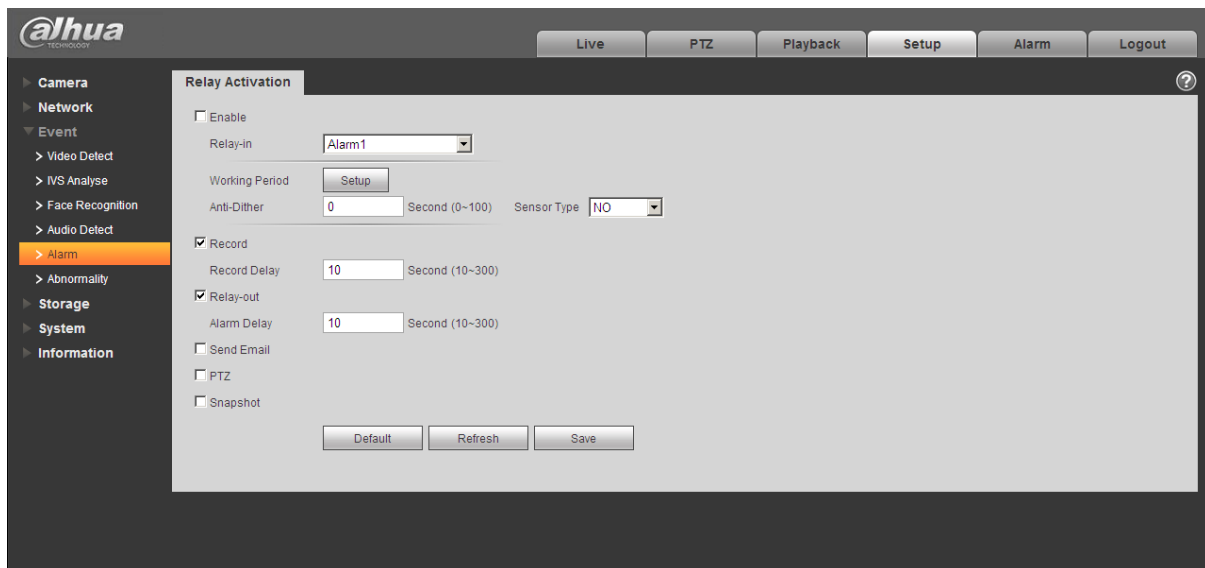

Figure 1-3 Alarm
The alarm interface is shown as in Figure 1-3. .
- Step 3. Open the Web; go to the Figure 1-3. Here you can set the alarm input setup and alarm output setup. Here the alarm input is the alarm input on the rear panel I/O port (as IN port). Then you can select the corresponding type (NO/NC) according to the high/low level type when an alarm occurs.